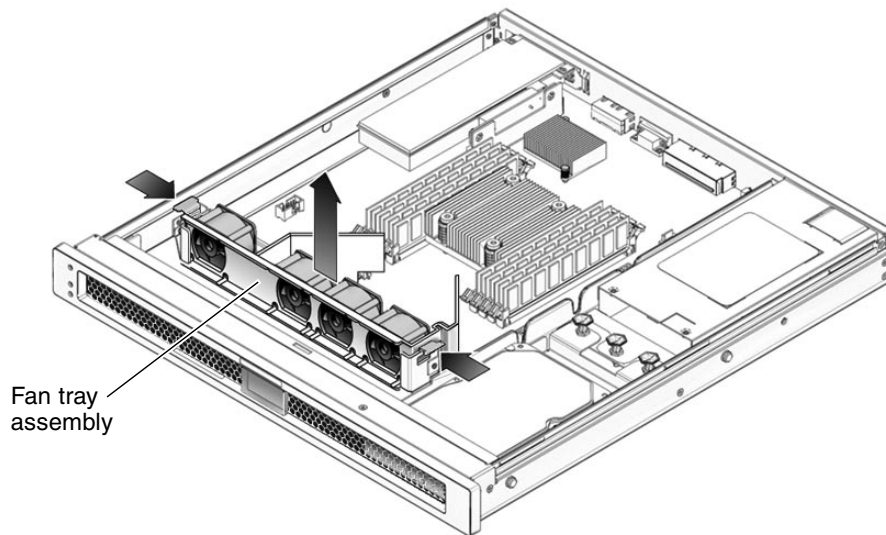

FIGURE 5-3 Removing the Fan Tray Assembly
3. Push in on the clasps on both sides of the fan assembly (FIGURE 5-3).